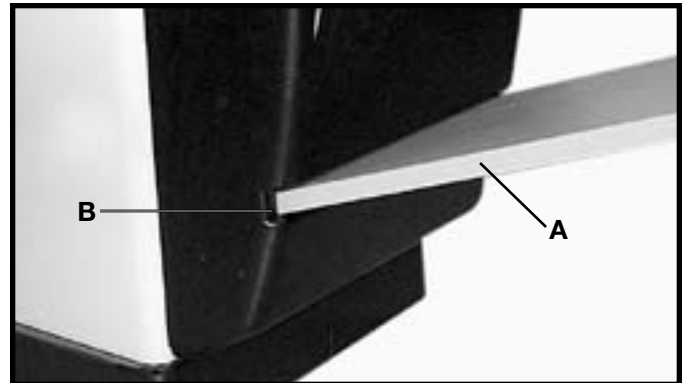

Fig. 47A
1. Insert one end of table board (A) Fig. 47A, into the motor cover slot (B).